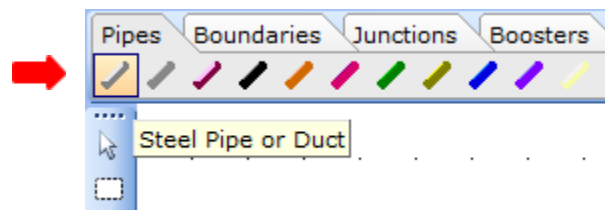

Figure 4: Steel Pipe or Duct Icon.
4. This represents our pipe boundaries. We can now connect the boundaries by selecting the desired pipe material from the *Component Palette*. In this design case, we know the pipe is a Schedule 40 steel pipe. Therefore, we need to select the Steel Pipe or Duct icon from the Component Palette (Figure 4).